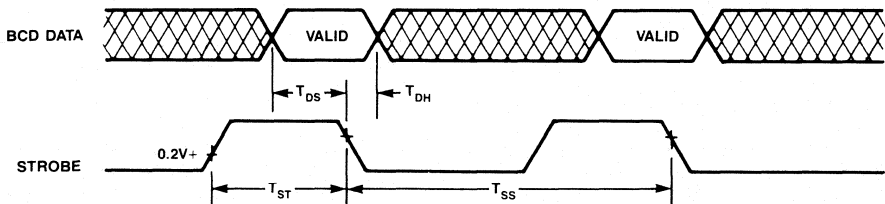

FIGURE 1 – BCD MODE STROBE INTERFACE TIMING
strobe used to clock the valid codes into the LND buffer. Dialing proceeds at the specified rates. The strobe duration must be active for at least 2 μ s to ensure proper acceptance of the information. If the strobe remains high for longer than 96 ms false dialing may occur. A minimum of 8 ms must separate each strobe. Figure 1 illustrates the required strobe/data timing. Valid encoded signaling information must be present until the strobe goes low. Information entered during an on-hook operation is stored but signaling is inhibited. Changing between BCD and keyboard mode can only occur when the HKS input is high, or upon power-up. Caution, a power supply transient may be interpreted as a power-up condition, and the logic level on pin 15 (11) at that time will be interpreted as a valid BCD/Keyboard selection.